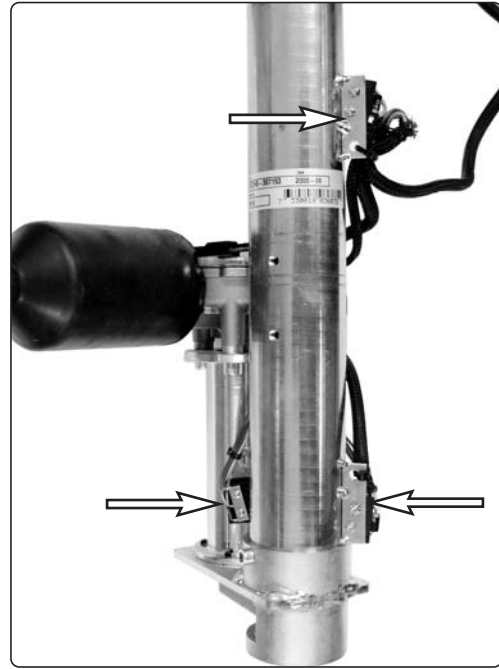

Fig.36. Attachment of the sensors to the seat lift.
2. Remove the seat lift sensors. Note the position of the sensors for refitting, see fig. 36.